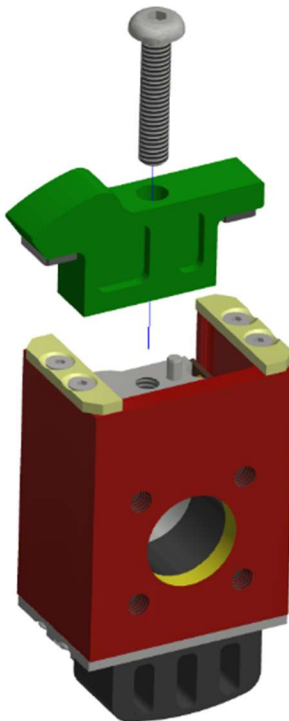

Figure 9-21. Remove Knee Rotation Stop from the Right Knee Slider Assembly
- 9.2.14 Remove the Knee Rotation Stop No Pot (474-5405) from the Right Knee Slider Assembly (474-5425) by removing the M4 X 0.7 X 20 LG. BHCS as shown in (Figure 9-21).